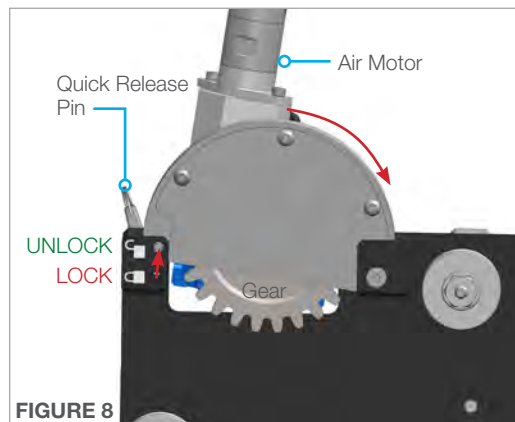

FIGURE 8
- Remove the **Quick Release Pin** from the *locked* position, pull back on the air motor to lift the gear, and insert the **Quick Release Pin** into the *unlocked* position. This will allow the **Vertical Drive Carriage** to slide onto the rail without pneumatic power. Center the carriage on the vertical rail, pull out the **Quick Release Pin**, let the gear drop into place and verify the gear is engaging the slotted rail correctly. Replace the **Quick Release Pin** into the *locked* position. (**Figures 8 & 9**)